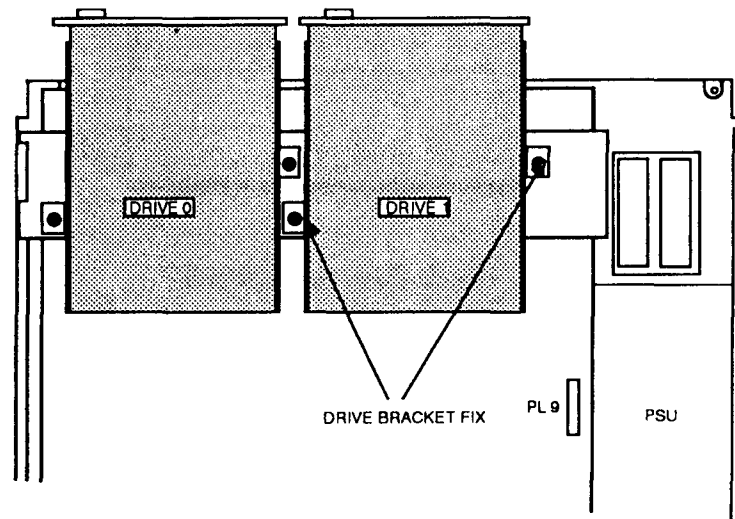

Fig. 5: Installing the new drive
- 2 Stand the unit back on its feet and unplug the LED/speaker connector PL9 from the main board (see Fig. 5). If a backplane is fitted, remove any expansion cards and lift the backplane out of the way, without removing the wires connected to the backplane. Grasp the front moulding assembly at each end and use a straight, steady pull to withdraw it from the front of the unit.